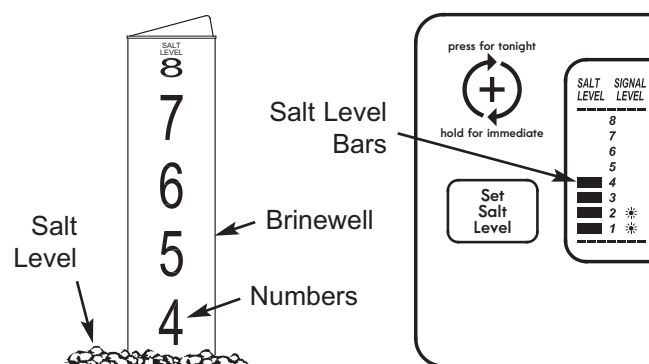

FIG. 25
2. The salt level scale, on the brinewell inside the tank, has numbers from 0 to 8 (see Fig. 25). Observe the highest number the leveled salt is at, or closest to.
3. Press the SET SALT LEVEL button as many times as necessary to make the salt level bars in the display (see Fig. 25) match the number on the brinewell. At level 2 or below, the Status Light will flash (See Page 12).